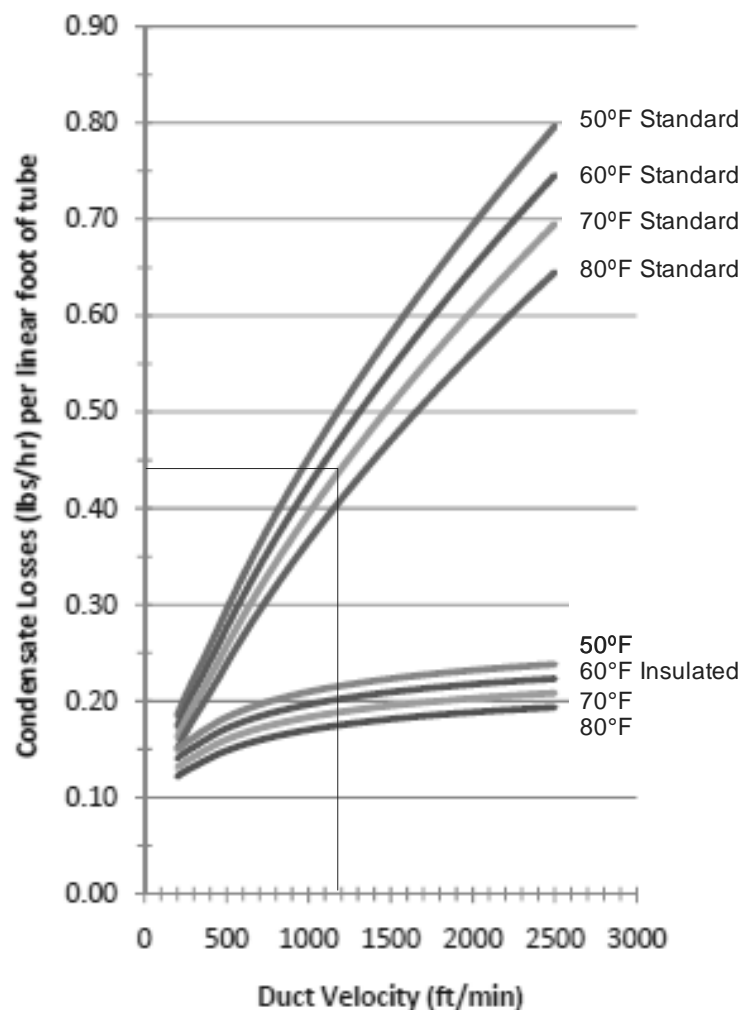

Figure 10: Distributor Losses
Convection heat transfer between a steam distributor in a duct and the air in the duct is the primary mechanism responsible for distributor losses. The amount of losses is proportional to the length of distributor and the temperature of the air in the duct. Figure 10 can be used to estimate distributor losses.
- 1 Obtain losses per linear foot of distributor from Figure 10.